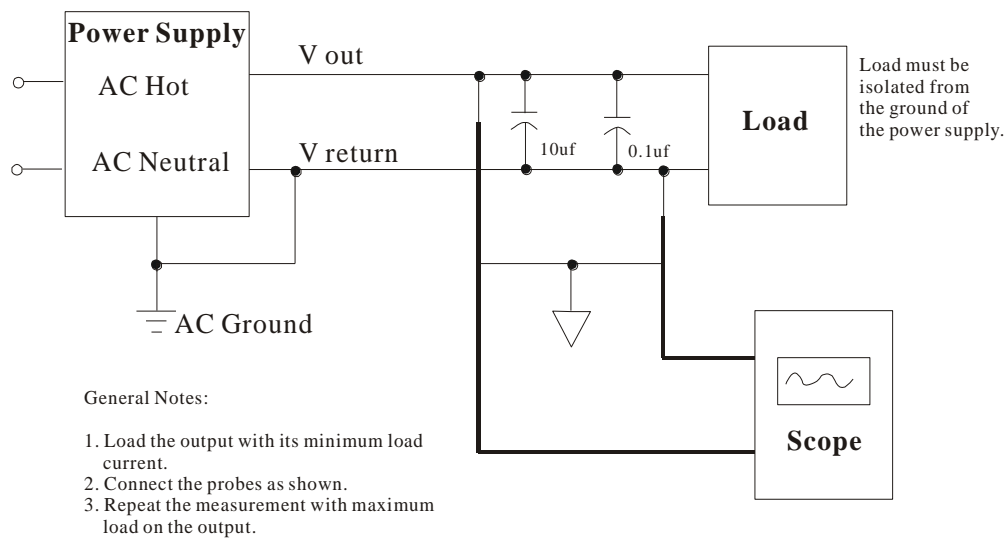

Figure 1. Differential Noise Test Setup
- B. Ripple and noise measurements shall be made under all specified load conditions through a single pole low pass filter with 20MHz cutoff frequency. A 0.1uF ceramic disk capacitors in parallel with a 10uF tantalum are placed at the point of measurement. See Figure 1.